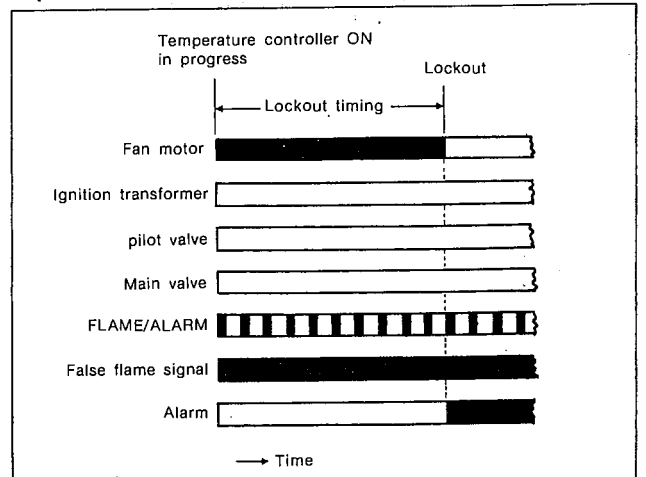

Fig. 13 (1)
- (2) When a false flame signal is existed from the start time, and it goes out during prepurge timing; (See Fig. 13 (2))